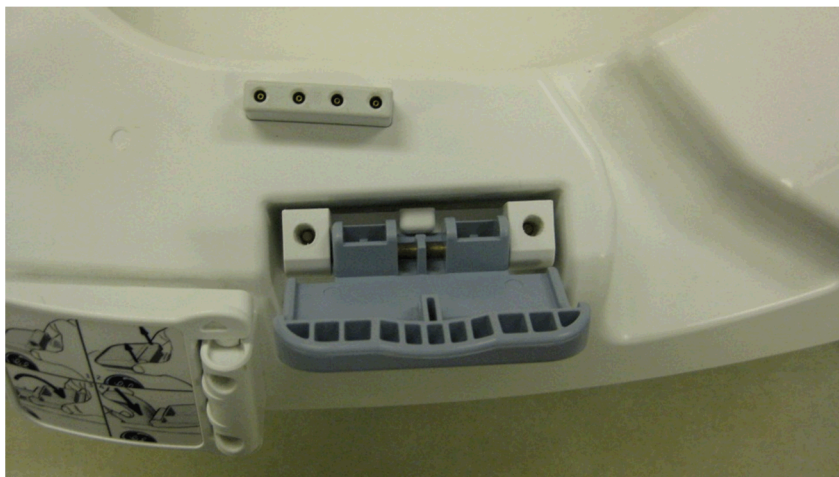

Figure 3.4
- 3.5. Install the new posterior latch assembly onto the posterior coil assembly with the 2 screws. Ensure the position of the latch is in the correct orientation prior to installing the screws as seen in Figure 3.4.